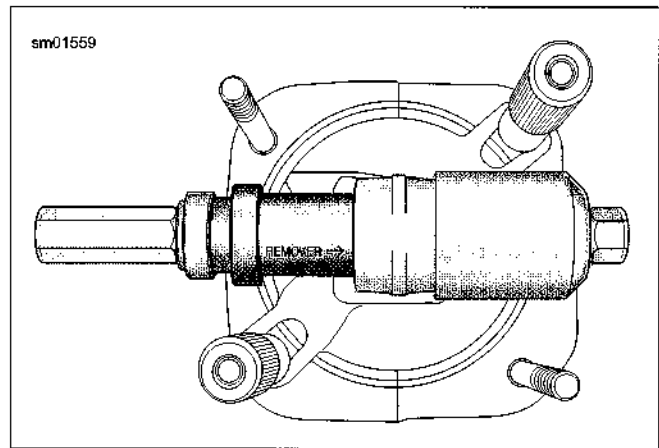

Figure 3-60. Remover Stackup. Use Remover Side Of Remover/Installer
- a. See Figure 3-60. Slide remover side of remover/installer onto bolt. The driver is stamped to verify proper orientation.